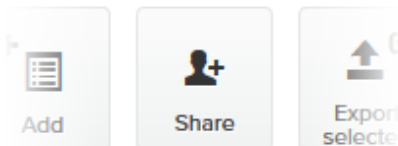

Figure 72. Plug-ins web page (Share button)
4. Click the **Share** button in the upper left-hand corner of the **Plug-ins** web page (Figure 72 (page 157)).